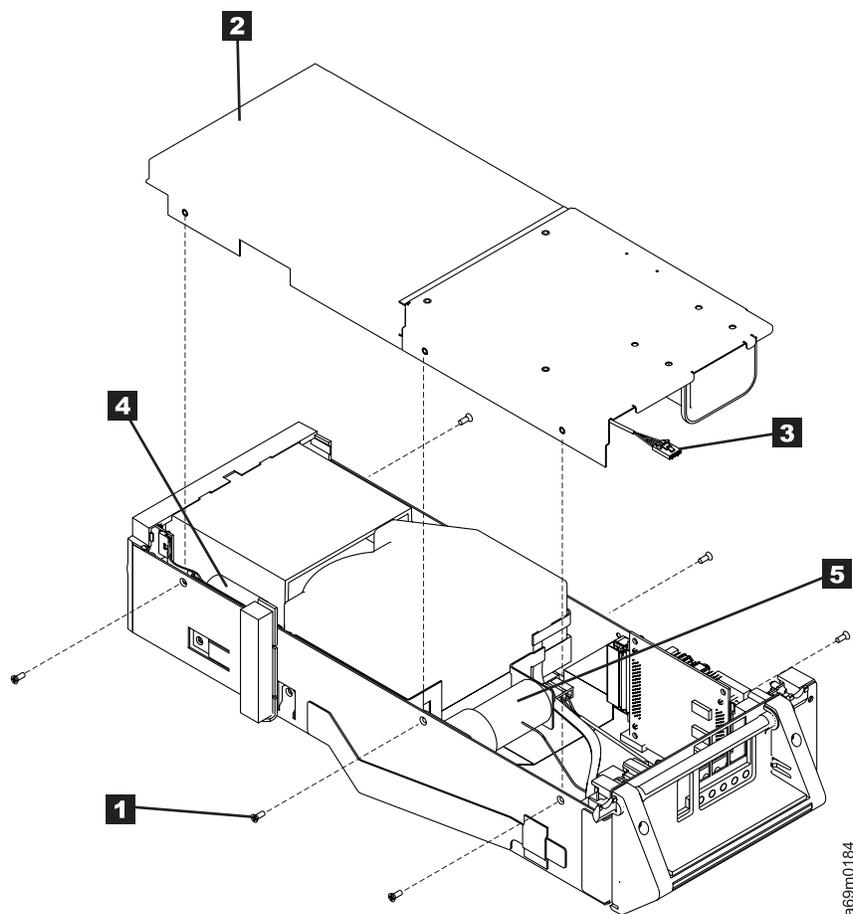

Figure 166. Manually Ejecting DLT-8000 Tape Cartridge from Drive
7. Refer to Figure 166 on page 677. Remove the six screws **1**, and carefully remove the canister lid **2**. The fan is attached to the canister lid and the cable from the fan is attached to the drive canister.